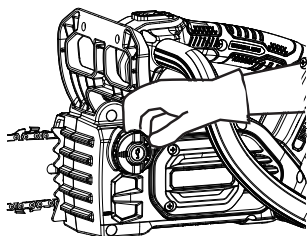

Fig. 5
3. Remove the oil tank cap (Fig.5).